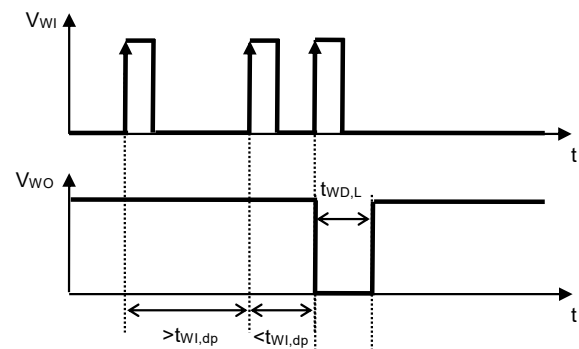

Figure 11 Watchdog Double-pulse Detection Time
- *3. The time from when the watchdog timer initiates the detection of a trigger signal to when a trigger is detected again before $t_{WI,dp}$ elapses and the WO pin output changes to "L" (Refer to **Figure 11**). This value changes according to C_{DLY} .